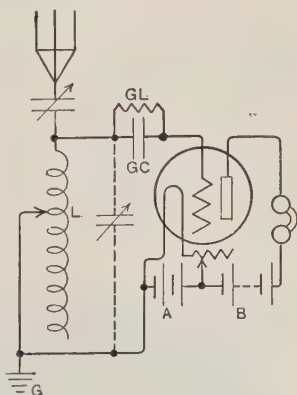

FIGURE 704. — SINGLE CIRCUIT AUDION SET.
**484. The Audion in Receiving Circuits.** — The three-electrode valve, or audion, is by far the most sensitive detector that has been used. In the simplest audion circuit (Figure 704), the grid is connected to the secondary of the tuning coil, usually through a small condenser (*GC*), and a resistance (grid leak (*GL*)) of a million ohms or more is shunted across the condenser. The audion rectifies the incoming waves, and, because of the action of the tube explained in § 475, the plate battery sends through the telephone receivers connected in its circuit currents which are much larger than